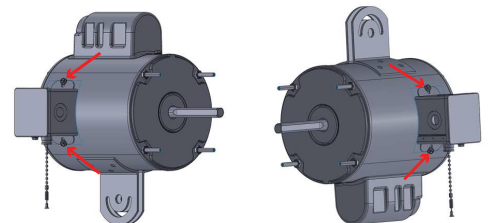

Figure 1. Pedestal Mount Figure 2. Ceiling Mount
- Remove the two mounting screws (8-18 x 9/32 long) that attach the enclosure to the motor. *Shown by arrows in figure 1 and 2.*